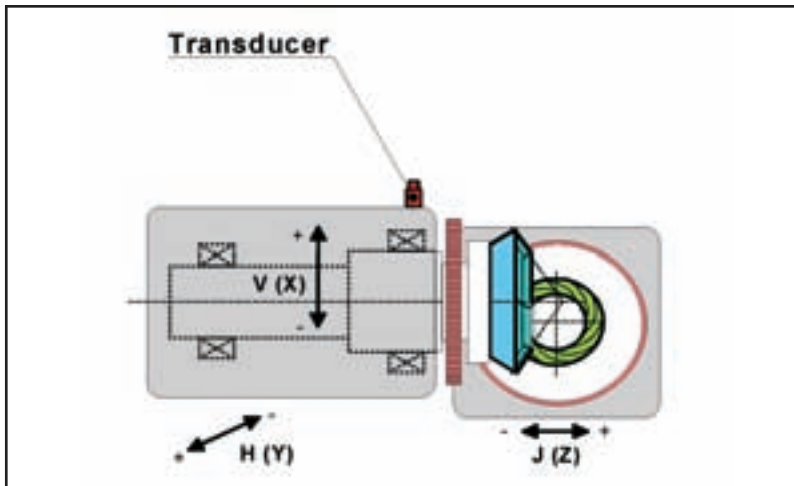

Figure 4—Typical arrangement of a vibration noise sensor on a bevel gear rolling tester.
*Vibration noise check (VN).* Typically a vibration noise sensor is mounted on a gear tester as close as possible to the meshing gear set to be tested (see Fig. 4). Preferably a CNC roll tester is used to apply torque and speed, to minimize influences of the roll testing machine itself, such as temperature deviations caused by mechanical brakes, torque variations due to manual application of torque, and speed variations due to influences of the applied torque—just to name a few.